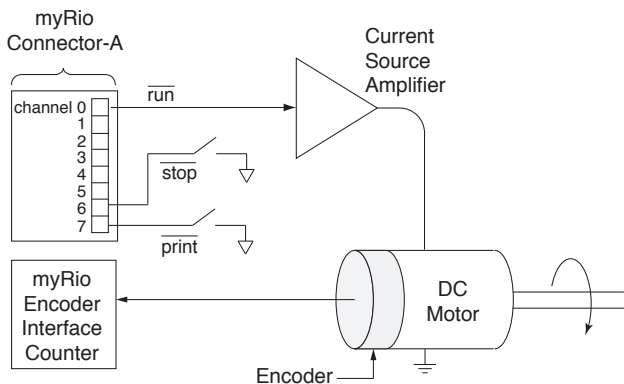

Figure 1: Pulse-modulation & speed measurement
In this exercise, your program will control and monitor the speed of a dc motor. The interface between the myRIO and the motor will be digital input/output (DIO) channels, and an FPGA encoder counter. See Figure 1.
1. Initialize channels 0, 6, and 7 on connector-A according to Figure 1. For example, for channel-7,